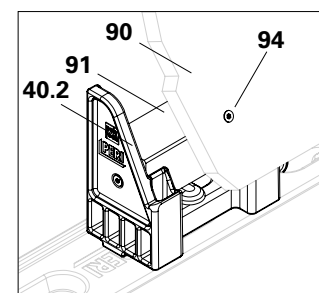

Fig. A4.07
- as filler funnel on the chamfered side (40.2). (Fig. A4.07)